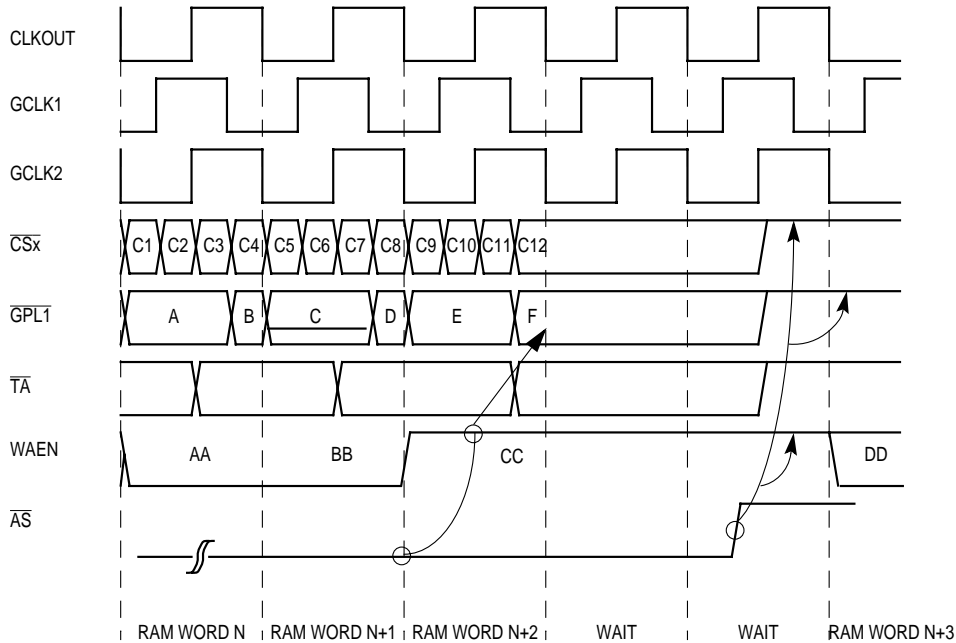

Figure 15-34. Wait Mechanism Timing For An External Asynchronous Master
**15.5.5.2 EXTERNAL ASYNCHRONOUS MASTER.** The UPM supports asynchronous external masters using the  $\overline{AS}$  signal. When you use an external asynchronous master, the  $\overline{AS}$  signal behaves like the UPWAITx signal. The UPM enters a wait state if the  $\overline{AS}$  signal is asserted and the WAEN bit is set in the current RAM word. As illustrated in Figure 15-34, the  $\overline{CSx}$  and  $\overline{GPL1}$  states (C12 and F) and the WAEN value (CC) are frozen until the  $\overline{AS}$  signal is recognized as deasserted. The  $\overline{TA}$  signal that is driven by the UPM remains in its previous value until the  $\overline{AS}$  signal is negated. The state of the external pins driven by the UPM remains as indicated in the word previously read by the UPM.